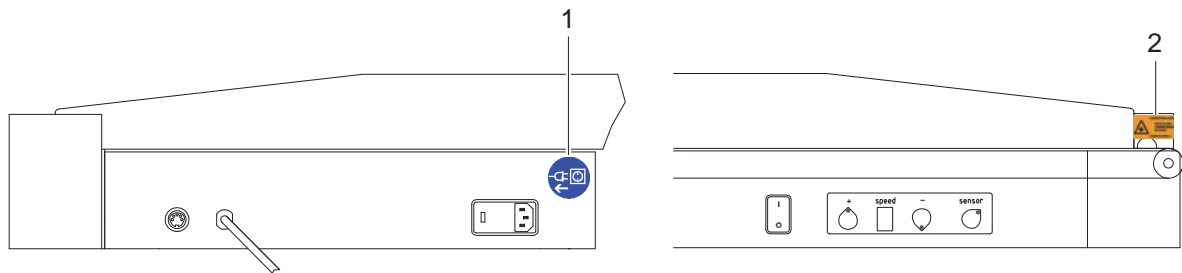

Fig. 1 Safety Marking
- ▶ By using the keys <+> (2) or <-> (4) settings from 0 until 9 are possible. The figure 0 corresponds to a length of 1000 mm. The figures 1 until 9 correspond to different lengths from 100 to 500 mm in steps of 50 mm. Tolerances of approximately 5 % are possible.